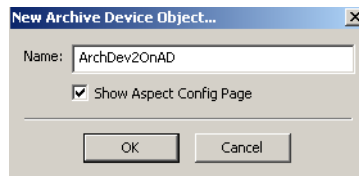

Figure 47. New Archive Device Object Dialog
5. Click **Archive Device** in the Create New Archive Object section. This displays the New Archive Device dialog, Figure 47.